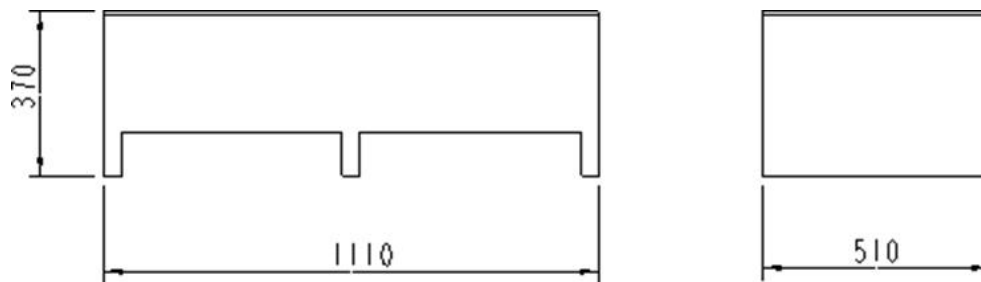

Fig 11-1 – Diagram of the external dimensions of the launch pile box
- 1、Insert number ⑥ and number ⑩ into number ⑦;
- 2、Put serial number ⑤ into serial number ⑥, put serial number ⑩ into serial number ⑩, and wrap the output line of serial number ⑩ around serial number ⑩;
- 3、Repeat step 2 in sequence until all 4 transmitter controllers and 4 transmitter coils are wrapped, then place sequence ② and sequence ⑧ on sequence ④ and sequence ⑩;
- 4、Cover number ① and seal the box with a hammer to complete the packing process. Refer to Figures 11-1 and 11-2